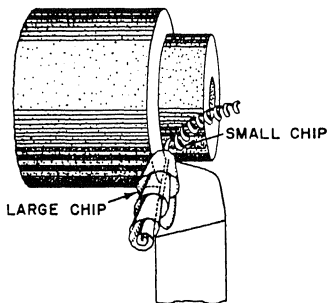

Figure 10-20.—Double chip caused by grinding a chip breaker groove too close to the cutting edge.
CONTROLLING CHIPS.—You can control chips in one of two ways: (1) get the right combination of back and side rake angles in combination with speeds and feeds or (2) grind on the back rake face of the cutter a chip breaker groove that will curl and break chips into short lengths. Method (1) is usually the best way. By changing the angle slightly, it is possible to throw chips in one direction or the other. If you use method (2), start the chip breaker groove just behind the cutting edge; be careful not to carry it through the point of the cutter. A chip breaker groove through the point of the cutter will tend to break down the cutting point, produce a poor quality of finish, and may produce a double chip (fig. 10-20).